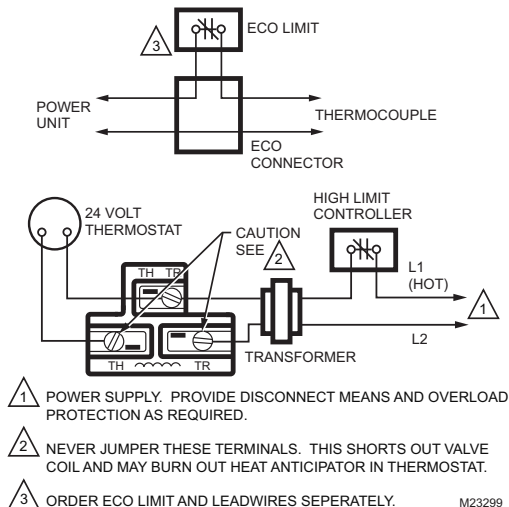

Fig. 9. Typical Wiring Hookup for 24V Systems.
- Connect control circuit to operator terminals. Refer to Fig. 9 for typical 24V wiring diagram.